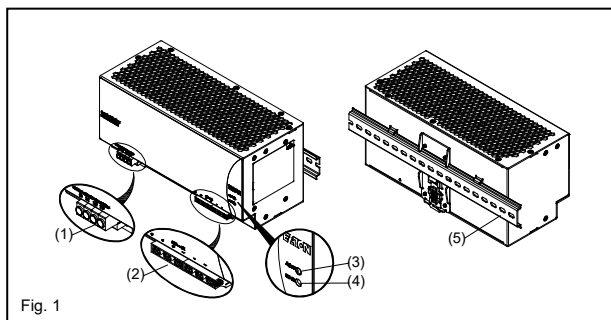

Fig. 1
2. Device description (Fig. 1)
5.1. Input connection (Fig. 1, Fig. 5)
5.2. Output connection (Fig. 1 (2))
Use the "+" and "-" screw connections to establish the 24Vdc connection. The output provides 24 VDC. The output voltage can be adjusted from 24 to 28 VDC on the potentiometer (see Fig. 1(3)). The green LED DC OK displays correct function of the output (Fig. 1 (4)). The device has a short circuit and overload protection and an overvoltage protection limited to 35 VDC.